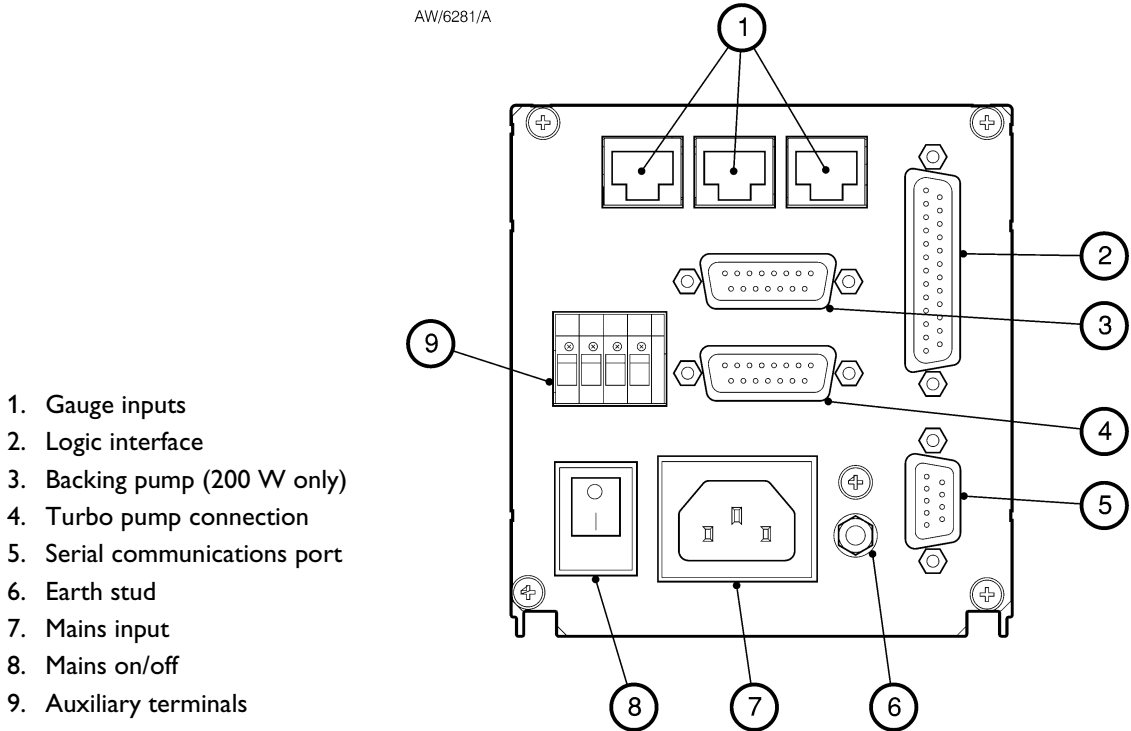

Figure 10 - Rear panel connections
The electrical supply cable normally provides protective earthing for electrical safety. If this is not the case, or if additional earth bonding is required, then the earth stud on the rear of the Controller (Figure 10, item 6) should be connected to your vacuum system earth.